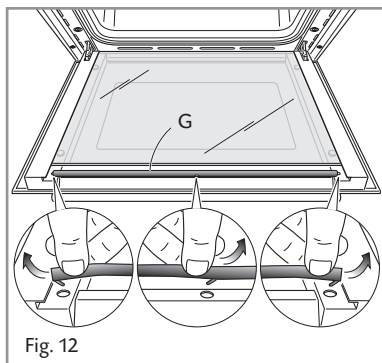

Fig. 12
- Remove the seal G by unhooking the no. 3 fixing hooks (fig. 12).